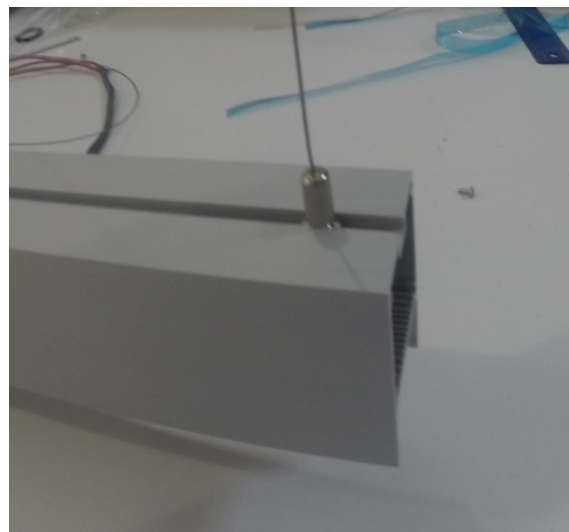

FIGURE 3
STEP 3: Thread the string through the pin and turn it tight. (FIGURE 3)